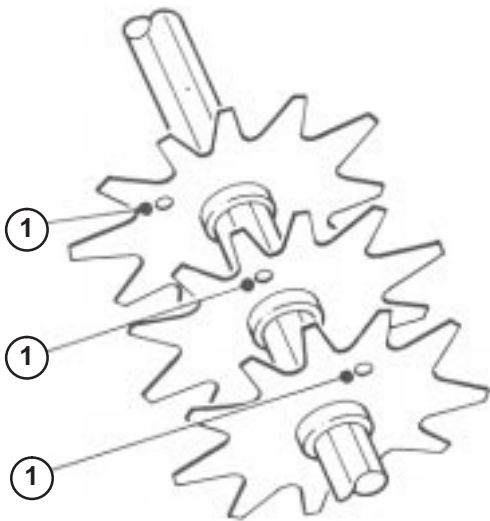

Figure 13
4. Install the next blade counter-clockwise so the index reference hole is not aligned with the first blade hole by one hex of the shaft (Fig. 13). Continue to install spacers and blades in this manner until the full complement of blades have been installed. When properly assembled, the blades will be staggered in such a manner to give a helix appearance.